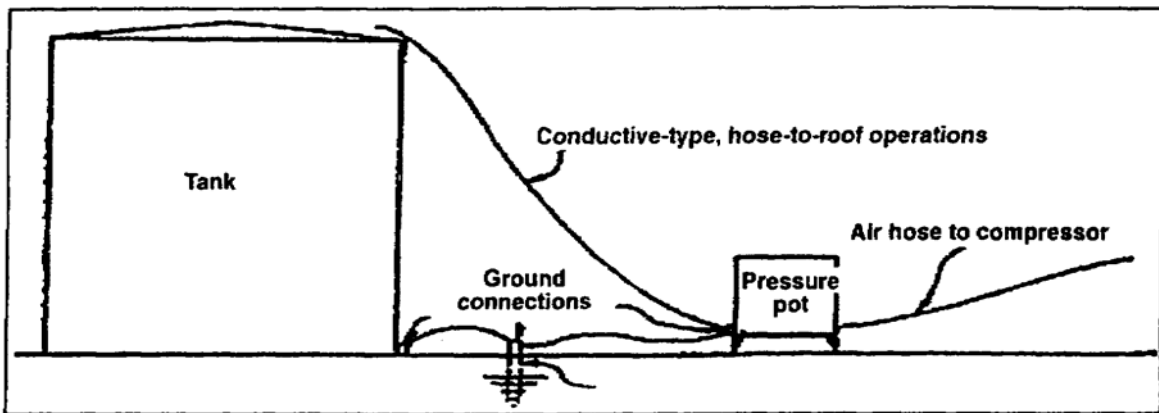

Figure 1-19. Grounding of tank and equipment
- Use a conductive hose. Ground nozzles, tanks, and pressure equipment when in use. The object being sprayed should also be grounded (Figures 1-19 and 1-20).